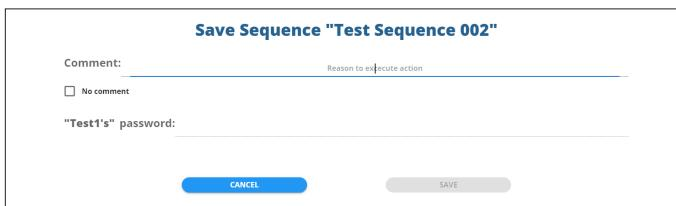

Fig. 71—Enter your comment and password to save the sequence.
13. Press the *Save* icon  in the bottom right corner of the *Sequence* window to save the sequence. In the popup window (Fig. 71), enter your comment, and your EVOM™ GxP Client password. If you don't want to add a comment, you may select the *No Comment* checkbox. If you do, default text appears in the comment line. Then, press the *Save* button to continue or the *Cancel* button to return to the main window without saving.